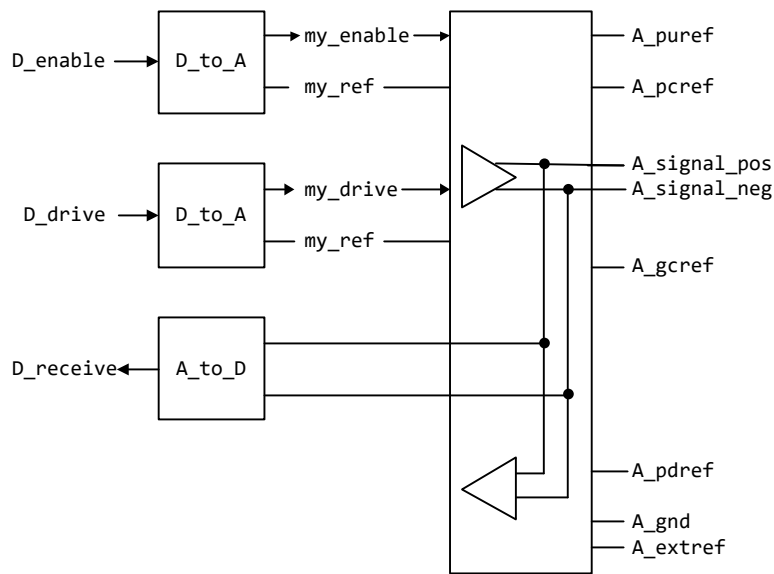

Figure 29 – Multi-lingual True Differential Buffer
The D_to_A or A_to_D adapters used for SPICE, IBIS-ISS, Verilog-A(MS) or VHDL-A(MS) files may be set up to control or respond to true differential ports. An example is shown in Figure 29.